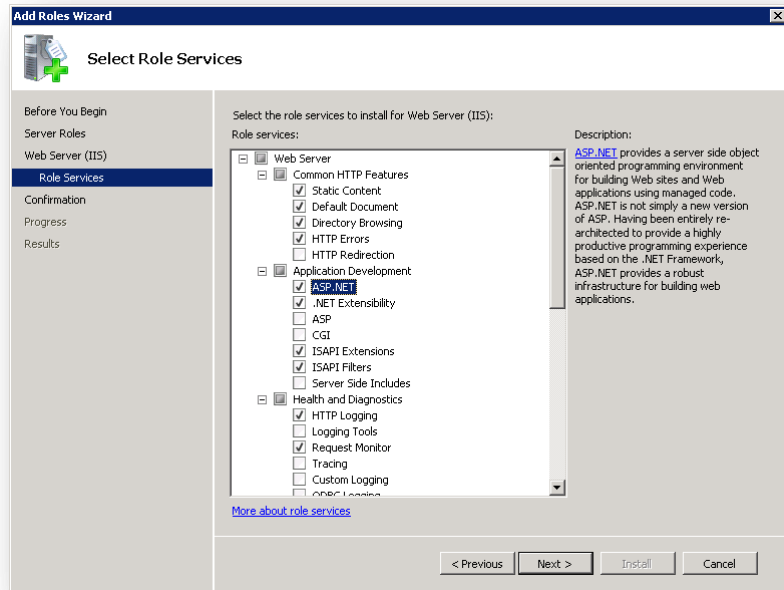
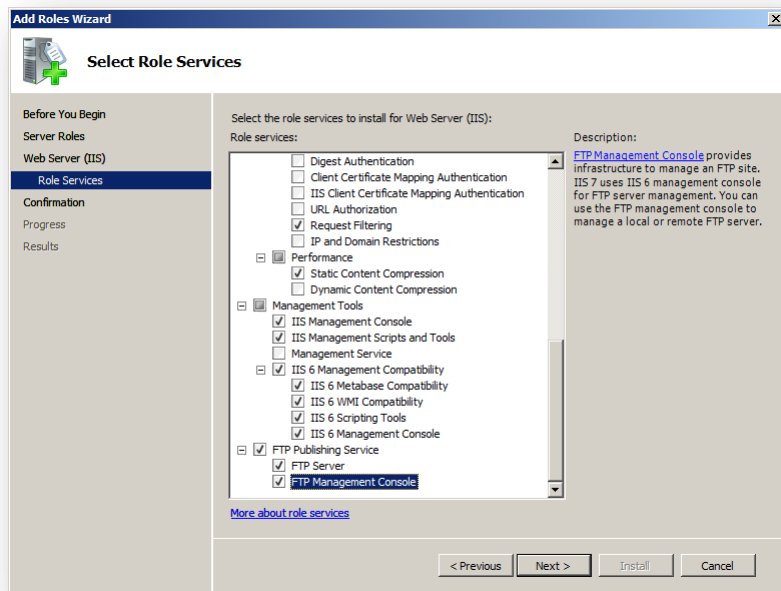

Figure 4 – Add Roles Wizard (Select Role Services 1)
Figure 5 – Add Roles Wizard (Select Role Services 2)
9. Verify that the selected role services resemble Figure 4 below and Figure 5, and then click **Next**.